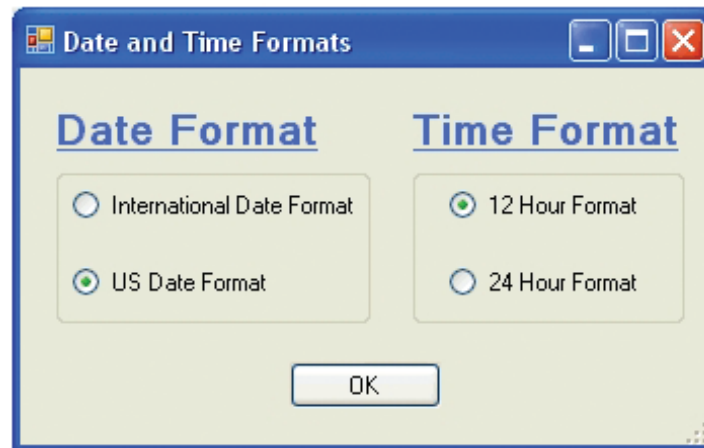

Figure 6
3. Select the desired format, and click OK when the format selection is complete (Figure 6).